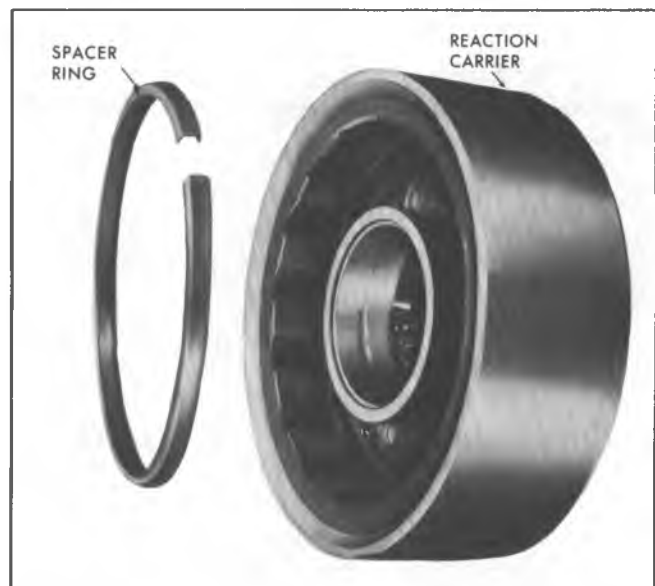

Fig. 14B-Inspecting Spacer Ring
1. If the reaction carrier has a spacer ring in an undercut at the bottom of the roller cam ramps, inspect it for damage (Fig. 14B).